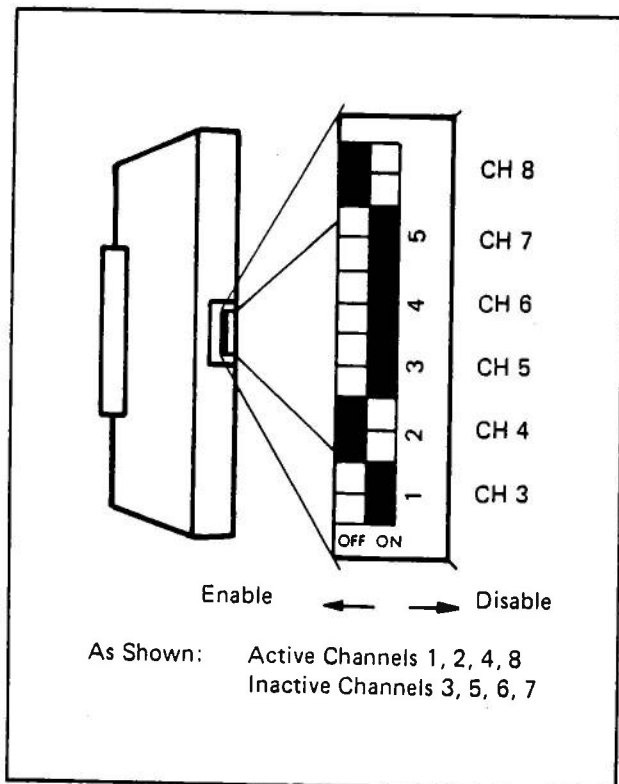

Figure 3 — Channel Inhibit Switches
Channel Inhibit — Channels 1 and 2 of the Module are always active. Channels 3 through 8 can be selectively inhibited by positioning the six switches on the Module as shown in Figure 3.
Step 2 - Set the Module's Channel Inhibit Switches (Figure 3).
Step 3 - Refer to system drawings and set the Module Inhibit Switches (Figure 3) as required.